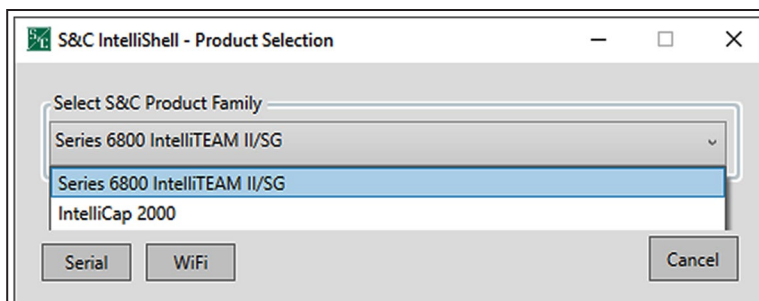

Figure 5. The S&C IntelliShell—Product Selection dialog box.
STEP 4. Select the **Series 6800 IntelliTeam II/SG** option and click on the **Serial** button to make a serial connection, or click on the **Wi-Fi** button to make a Wi-Fi connection. See Figure 5.